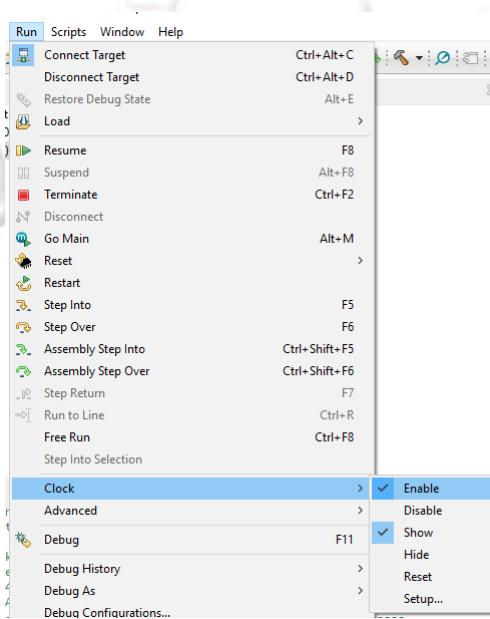

Figure 25. Run Menu
Step 2. Close the Register window. To see the cycle count, click on Run->Clock->Enable (Figure 25) from the debug perspective.